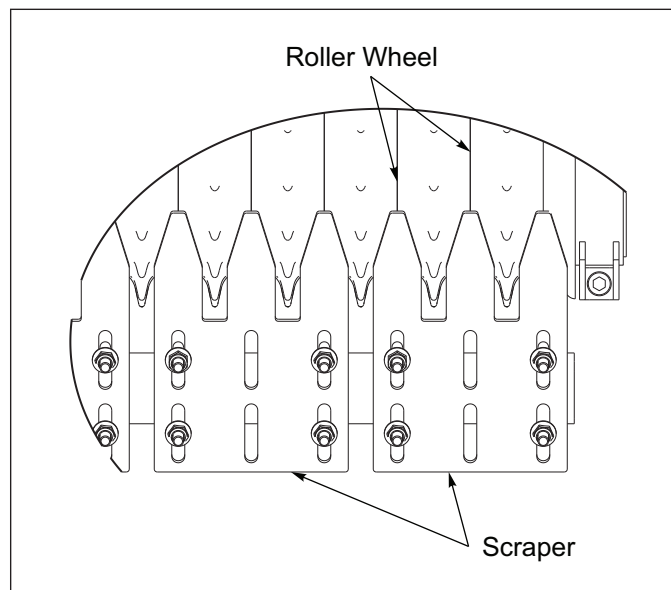

Figure 5-15: Scraper Alignment
3. Verify that the Scrapers are centered as best as possible between the Roller Wheels and adjust if necessary. **See Figure 5-15.**